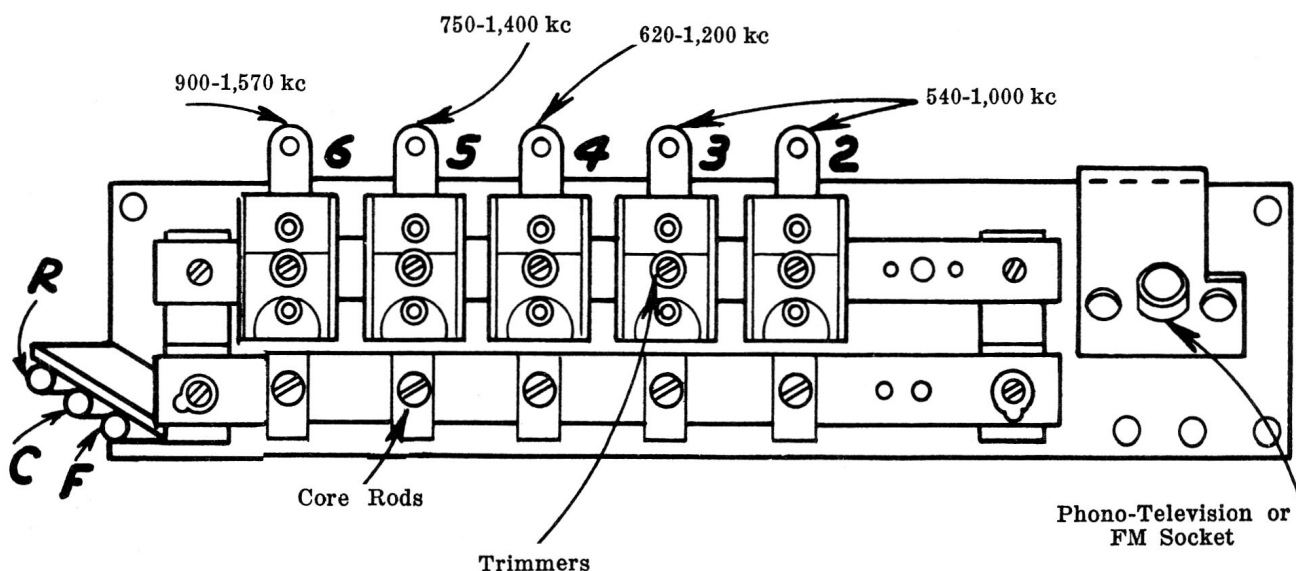

Fig. 4
(1) Turn "Range selector" to "A" position and manually tune in the first station, say 560 k.c.
(2) Turn "Range selector" to "P.B." position, press key No. 2 located second from left on front panel.
(3) Referring to Figure 4, adjust core and trimmer No. 2 for a peak at 560 k.c.
(4) Proceed to adjust the other four stations in order of frequency, as outlined above.